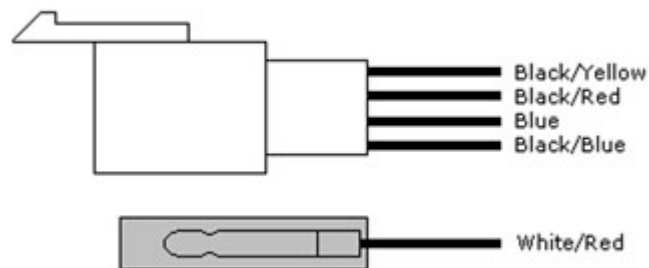

Figure. 1
1. Using wire cutters, remove the two wire harness connectors shown in figure 1, cutting the wires as close as possible to the connectors, thus providing you with the maximum available wire length to work with.